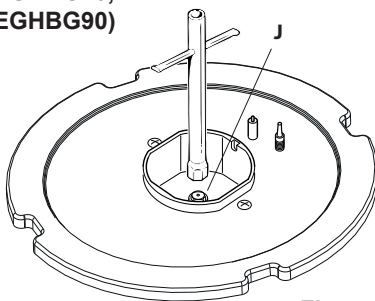

Figure 5a
- Using a wrench, substitute the injectors “J” (figs. 5a, 5b, 5c, 5d) with those most suitable for the kind of gas for which it is to be used (see table above).